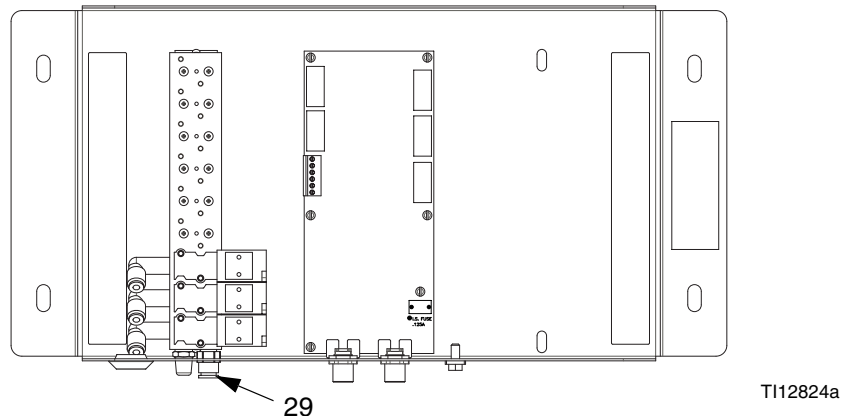
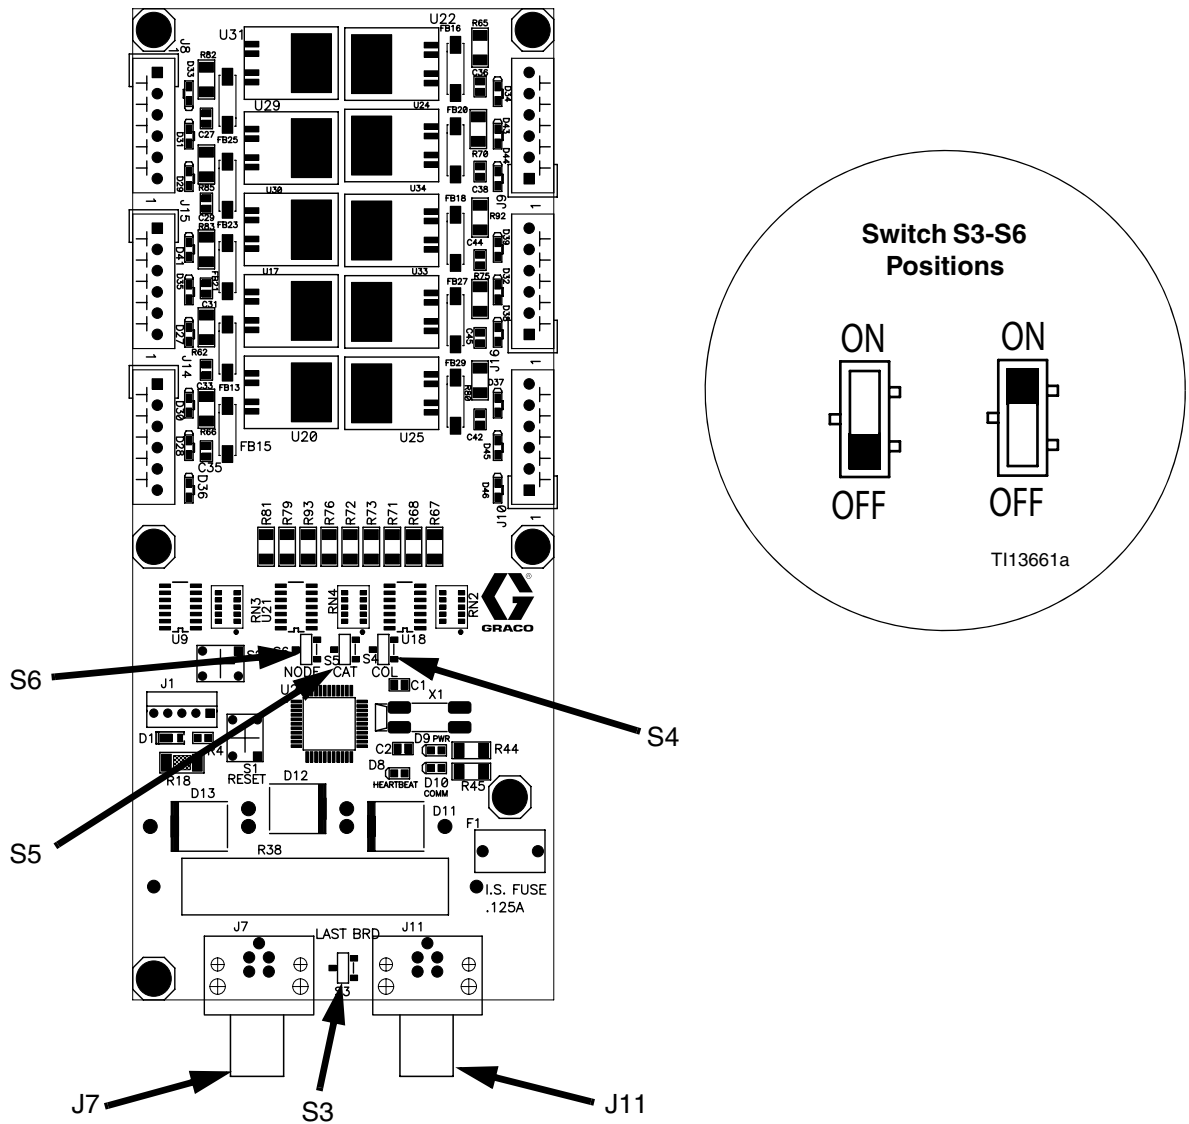

**FIG. 2: Fluid Station Control Board Connection**
FIG. 5. 256172 Color Change Board Switch Settings
2. See FIG. 1. Connect a 5-pin electrical cable (EC) from the labeled connection port **C.C.** (J11) on the fluid station control board to the color change board. Also see FIG. 2 and FIG. 5.
If you are using two color change modules to add colors, connect a 5-pin electrical cable from the first color change board to the second color change board. See FIG. 5.
Set switches S3-S6 on the color change board(s) as shown in Table 2 and FIG. 5, depending on the number of color change boards and color change modules being used in your system.